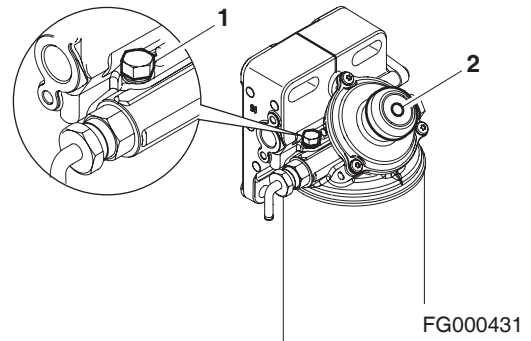

Figure 23
3. Loosen plug (1, Figure 23) on top of fuel filter head.
4. Pump hand operated primer pump (2, Figure 23) by the fuel injection pump. Pump primer until fuel is present at plug hole in fuel filter head.